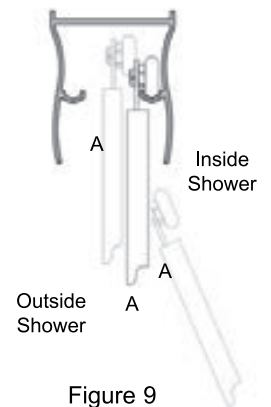

Figure 9
- B. Hold the Inside Framed Door Panel (#6) so that the rollers are facing away from you. Standing outside and facing the shower enclosure, lift the Inside Framed Door Panel (#6) up and over the Bottom Track/Curb (#2) and then lift the Top Rail (#10) up into the Header (#1) (See Figure 9).